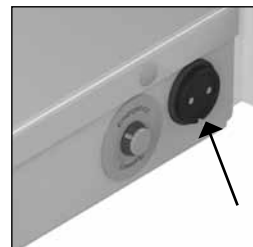

Figure 10 Charging point.
- The charging point is located in the centre of the undercarriage (See figure 10).
- Connect the charger to the Marina (See figure 10).